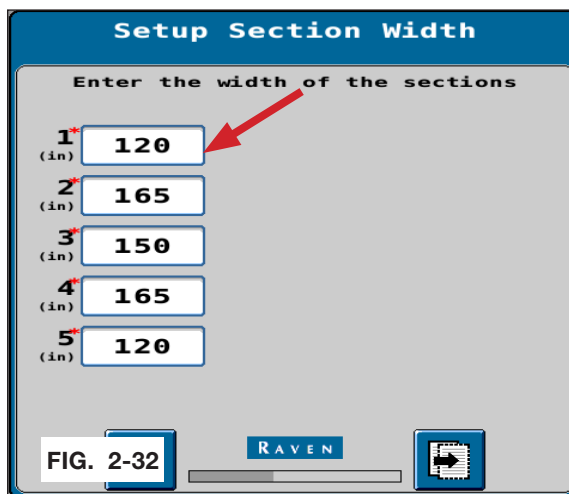

FIG. 2-32
- Enter values for each section. Click next. (FIG 2-32).